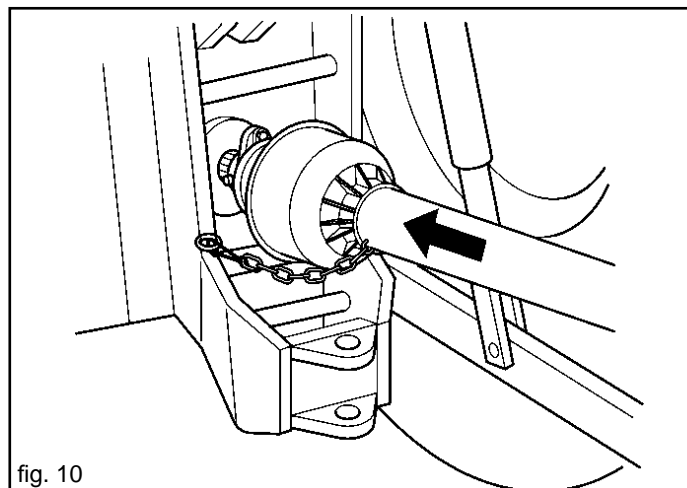

fig. 10
- 6) Connect the Cardan shaft and make sure that it is perfectly blocked on the power take-off (Fig. 10). Check that the guard turns freely and fix it with the chain provided.